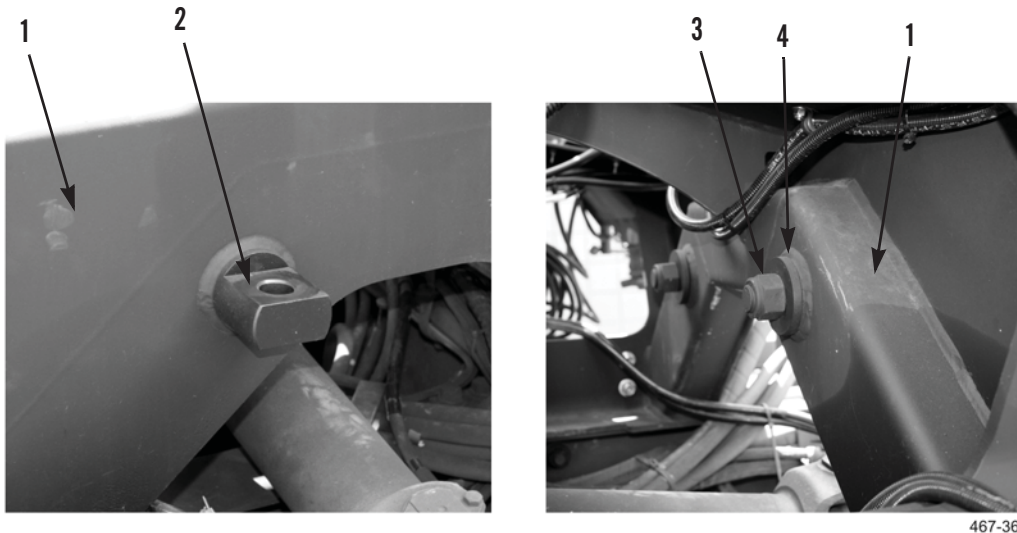

Figure 2. Pin Removal.
4. Remove locknut (Figure 2, Item 3), washer (Figure 2, Item 4), and pin (Figure 2, Item 2) from stowage assembly (Figure 2, Item 1). Discard locknut.
1. Install pin (Figure 2, Item 2), washer (Figure 2, Item 4), and new locknut (Figure 2, Item 3) on stowage assembly (Figure 2, Item 1).